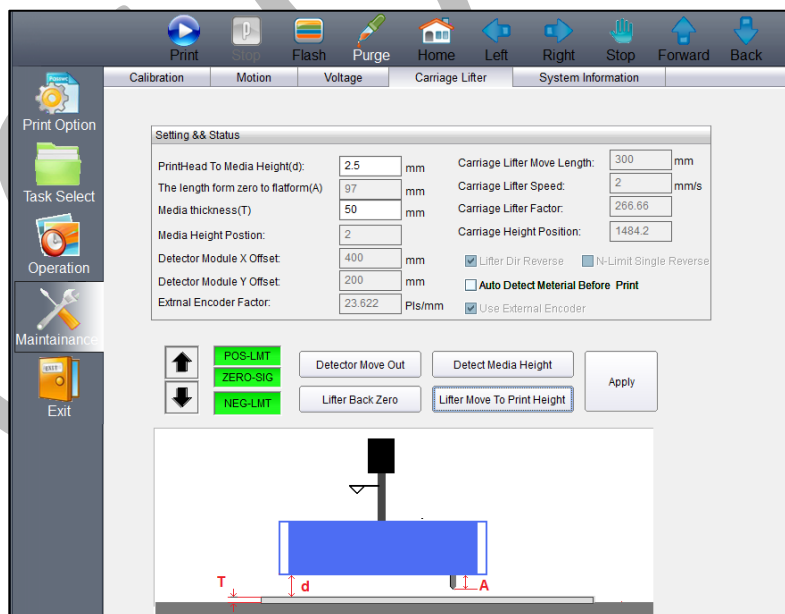

Fig 34: Detecting the Head Height
**Step 6:** After this, click on the **Apply** button to apply changes if any (refer to Fig 34).